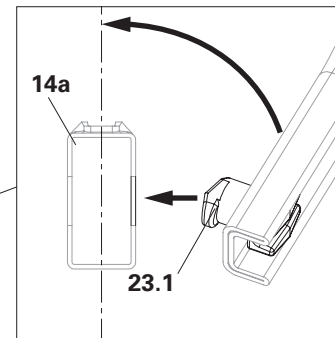

Fig. A4.08b
2. Insert the mounting finger (**23.1**) of the Ledger Brace UBL (**23a**) diagonally into the hole of the lower Horizontal Ledger UH Plus (**14a**) and swing the ledger diagonal towards the base scaffold. (Fig. A4.08b)